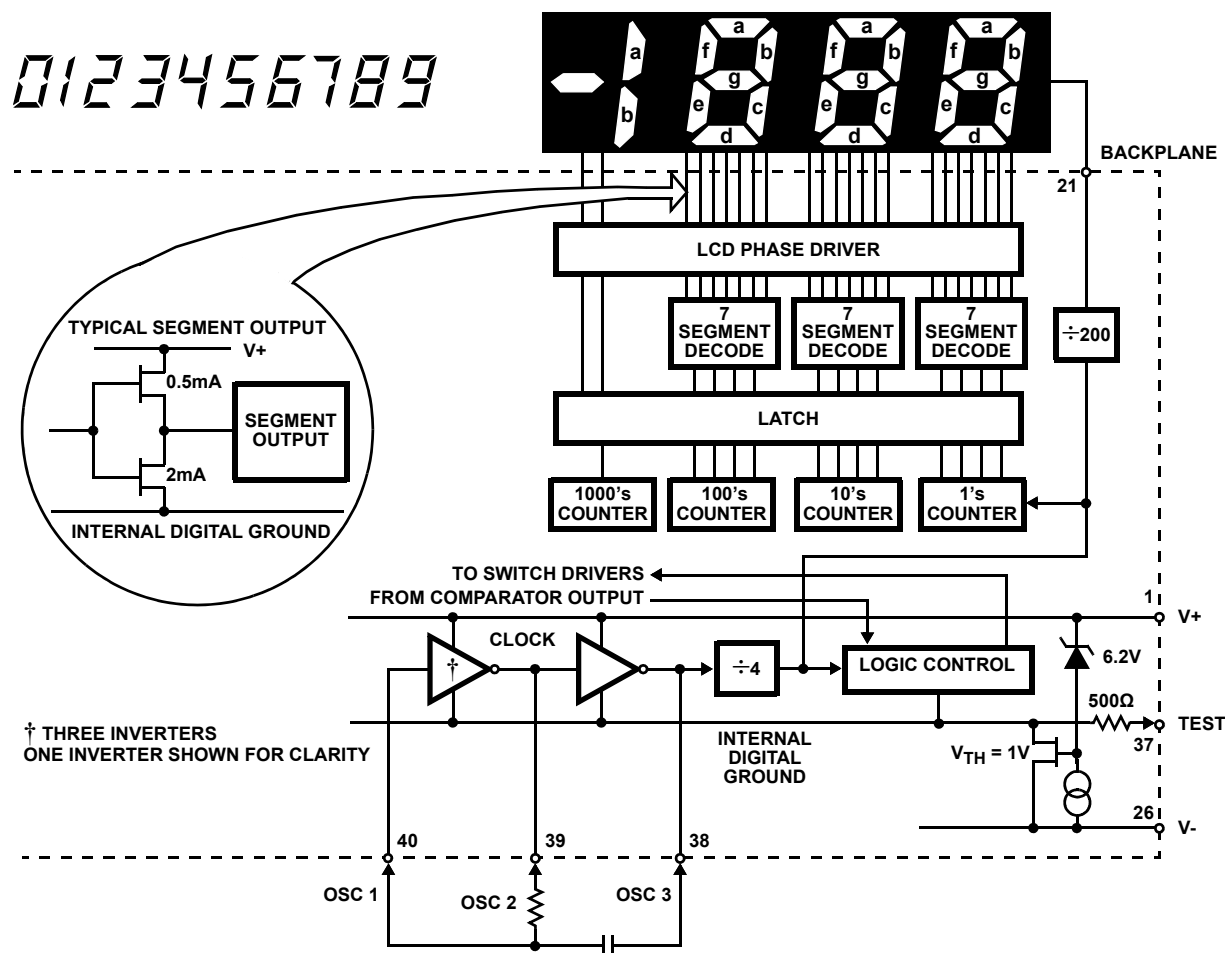

FIGURE 7. ICL7106 DIGITAL SECTION
Figures 7 and **8** show the digital section for the ICL7106 and ICL7107, respectively. In the ICL7106, an internal digital ground is generated from a 6V Zener diode and a large P-Channel source follower. This supply is made stiff to absorb the relatively large capacitive currents when the back plane (BP) voltage is switched. The BP frequency is the clock frequency divided by 800. For three readings/sec., this is a 60Hz square wave with a nominal amplitude of 5V. The segments are driven at the same frequency and amplitude and are in phase with BP when OFF, but out of phase when ON. In all cases negligible DC voltage exists across the segments.